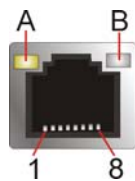

Figure 3-23: Ethernet Connector
- CN Pinouts:** See **Figure 3-23** and **Table 3-23**